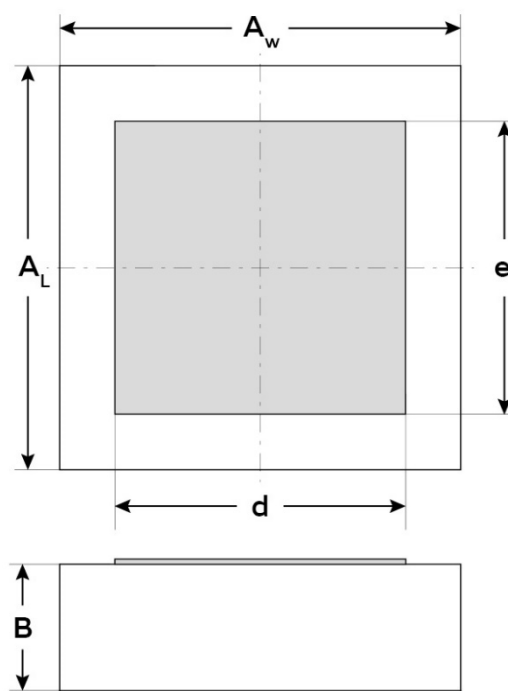

Figure 7 - Package outline 10nF Capacitor
(1) Other film frame carriers are possible on request
(2) Au = TiW/Au (0.3µm) / Au (3µm)
(3) Refer to Figure 7
(4) missing capacitors can reach 0.5%